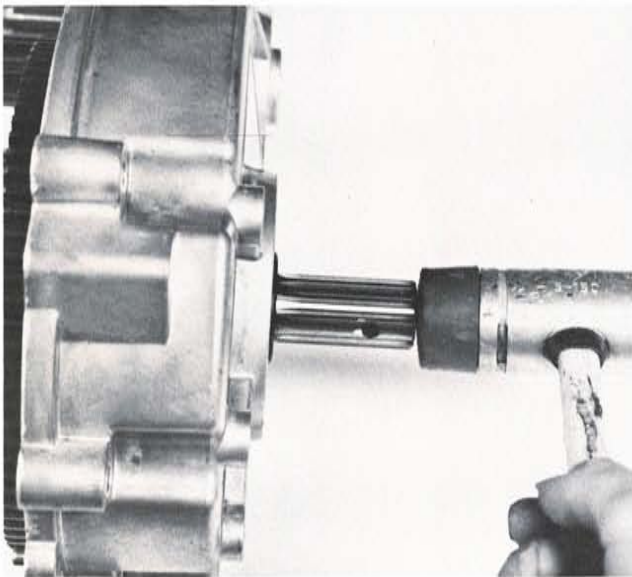

Fig 11
10. Remove differential assembly by tapping out with a plastic mallet. (Fig 11)